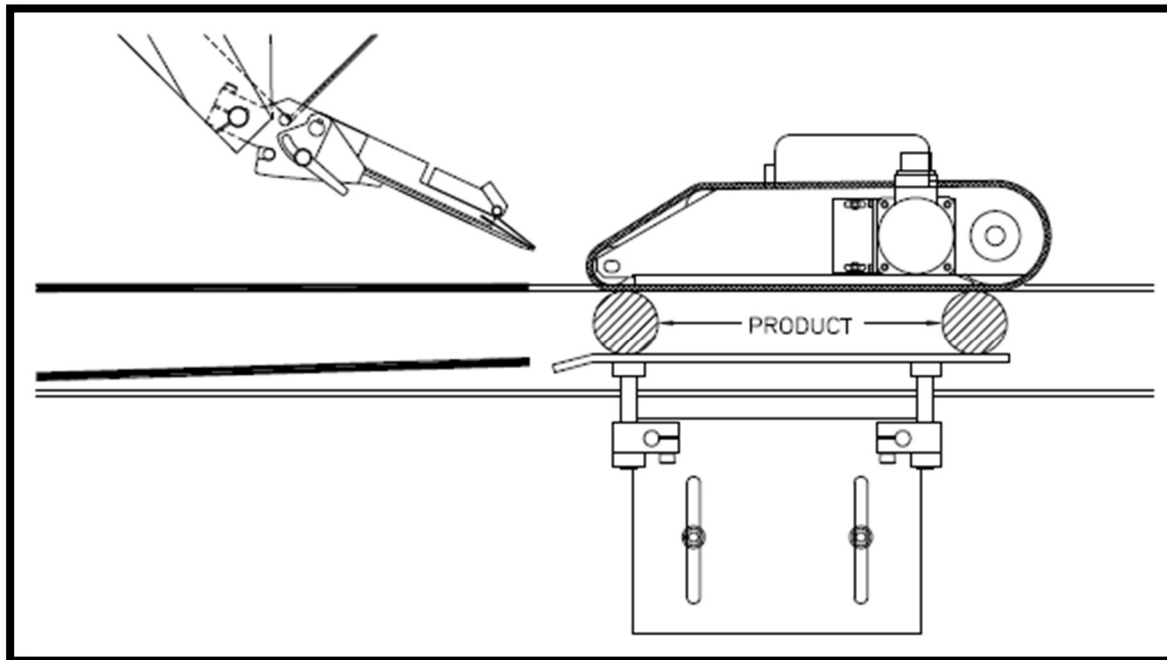

Figure 32 Pressure Bar Position
6. Position the pressure bar $\frac{1}{3}$ to $\frac{1}{2}$ the height of the product. (See *Figure 32*).
7. Make sure that the pressure bar is parallel with the conveyor chain top from in feed to out feed. See *Figure 32*.
8. Position the pressure bar against the two products (See *Figure 32*). Push the pressure bar against the products to collapse the pressure springs slightly and evenly. Tighten the pressure bar assembly in place. Remove the products.